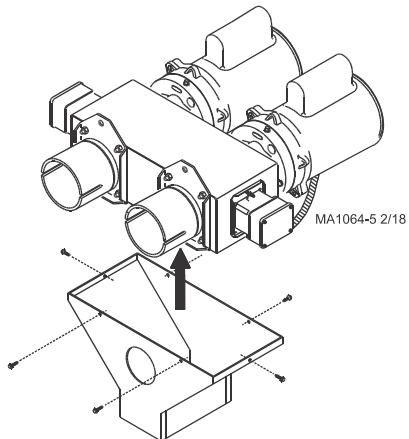

Figure 4. Secure the Hopper Weldment
5. Secure the Hopper Weldment to the bottom of the Control Unit Body, as shown in **Figure 4**, using hardware provided.